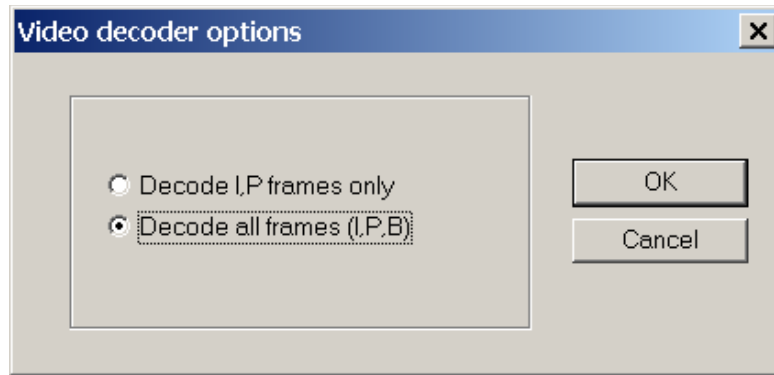

Figure 12 Decoder Options Window
- Decode Options. Selection of the decode options presents a further window as depicted in Figure 12. Two options for full and partial decoding of the MPEG video streams are presented.